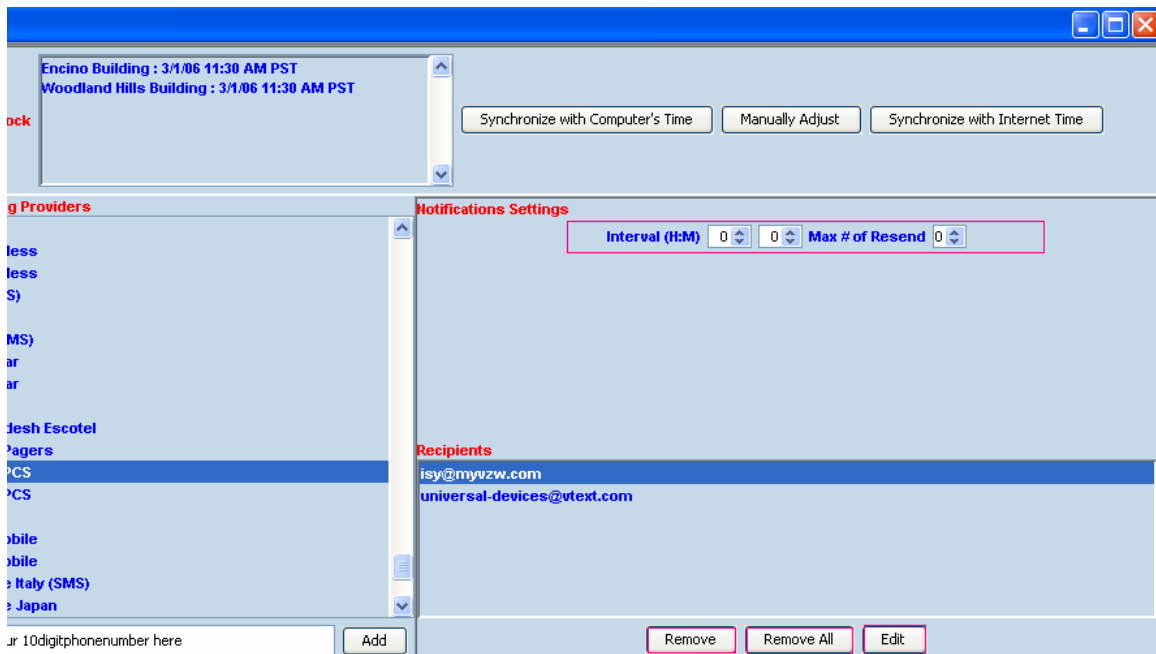

Figure 15 – Modifying the Notifications Settings
- v. Enter the interval/duration for Notifications to be sent (refer to Figure 15)
At any moment in time, you can modify the list of recipients (refer to Figure 15)